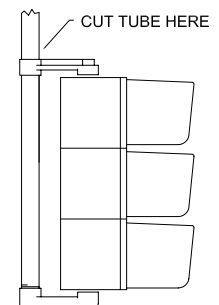

Figure 4
4. Using hack saw, cut off any excess tube which may protrude above the upper arm. (Figure 4).